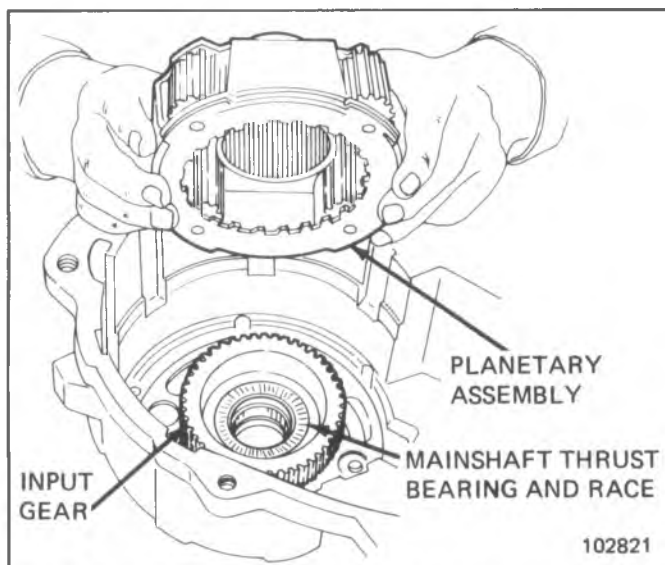

Fig. 7E-34-Input Gear, Mainshaft Thrust Bearing and Planetary Installation
10. Engage range fork in annulus gear and install annulus gear over planetary assembly (Fig. 7E-35).
Be sure that the range fork lug is fully inserted in range sector slot (Fig. 7E-20).
12. Align shaft bores in case and range fork, and install shift rail (Fig. 7E-35).
13. Install mainshaft (Fig. 7E-19). Be sure mainshaft thrust bearing is properly seated in input gear before installing mainshaft.